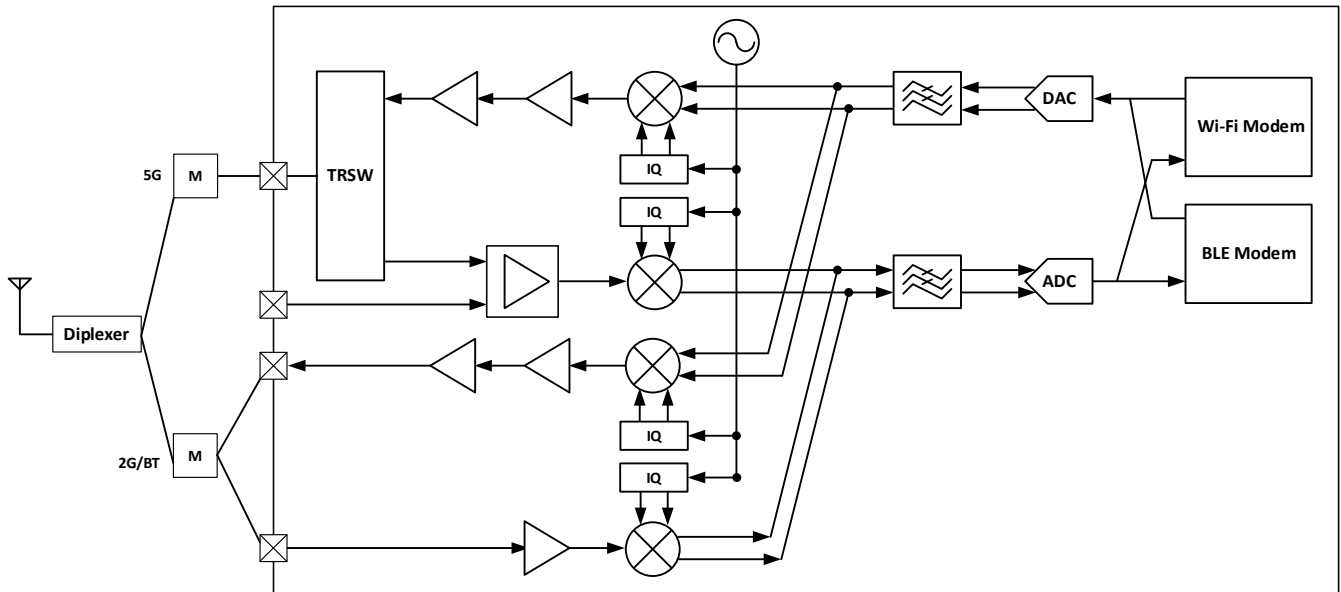

Figure 5-1 RF block diagram
The radio frequency (RF) block diagram of RTL872xD, including Wi-Fi modem and BLE modem, is given in Figure 5-1.